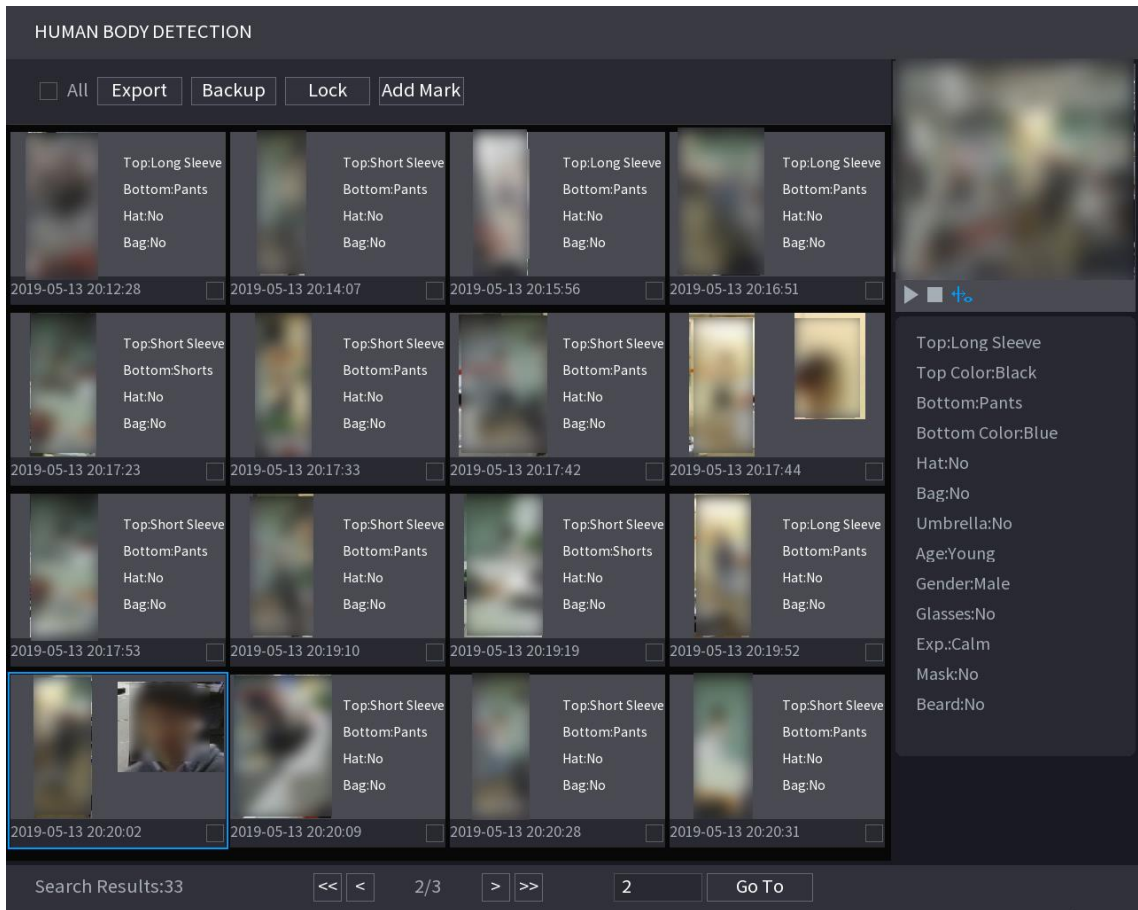

Figure 5-175
- If you selected **Human Body Detection** and **Face Detect** in "5.11.1.4.1 Configuring Video Structuring", and there is any human face appears in the video, there will be extra face features displayed in the results. See Figure 5-175.